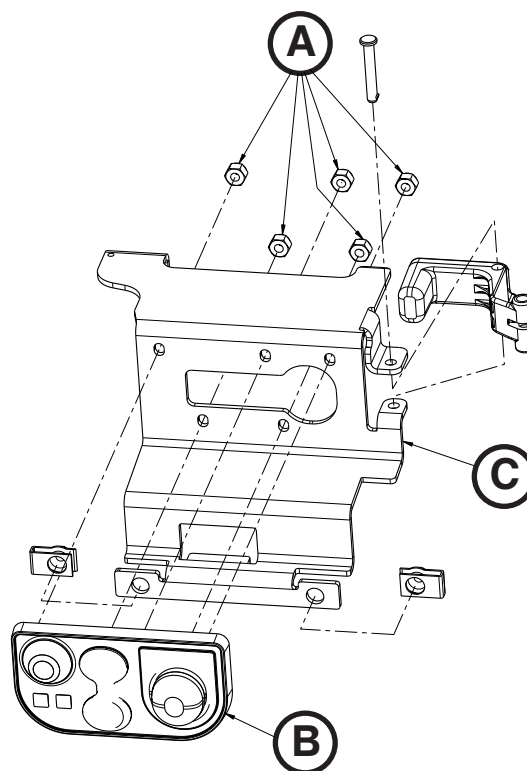

Figure 67
2. Using a 11/32" nut driver, remove the five Fiberlock hex nuts (A) that secure the master On/Off switch (B) to the manual release button bracket (C). Discard the master On/Off switch (Figure 67).